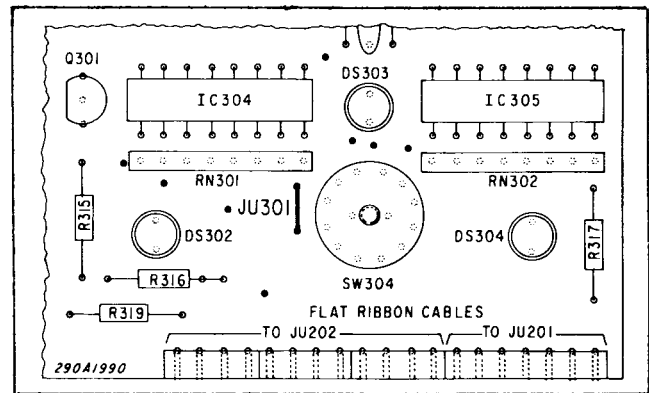

Figure 7. Multiplex PC Board.
*If Manual Siren is desired in SEC mode, add JU301 to the control head Multiplex PC board (see Figure 7).